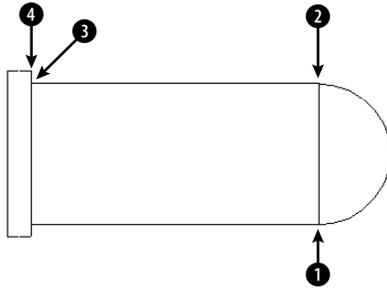

Figure 4-24: Drawing a steam boiler with an endpoint running object snap.
7. Start the ARC command. At the Specify start point of arc or [Center]: prompt, pick the endpoint at **1**, shown in Figure 4-24. (Look for the marker and AutoSnap tooltip.)
8. At the Specify second point of arc or [Center/End]: prompt, right-click and choose End. Pick the endpoint at **2**, shown in Figure 4-24.
10. Start the LINE command and at the Specify first point: prompt, pick the endpoint at **2** in Figure 4-24.
13. Start the LINE command. At the Specify first point: prompt, place the cursor 0.25 units above **3** in Figure 4-24 (at 2,5.25). You may need to turn off the running OSNAP temporarily. Pick point 2,5.25.
Specify next point or [Close/Undo]: *Pick the endpoint at 4 in Figure 4-24. (If you turned off OSNAP in Step 13, turn it on again.)*